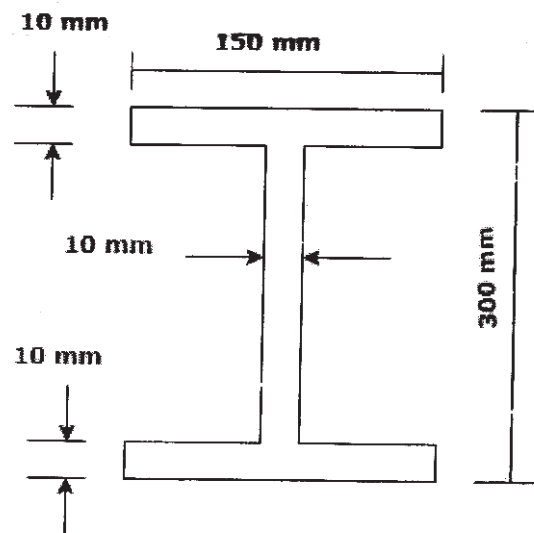

Figure 11
b) Determine shape factor of I-Section Shown in figure 11. [12]